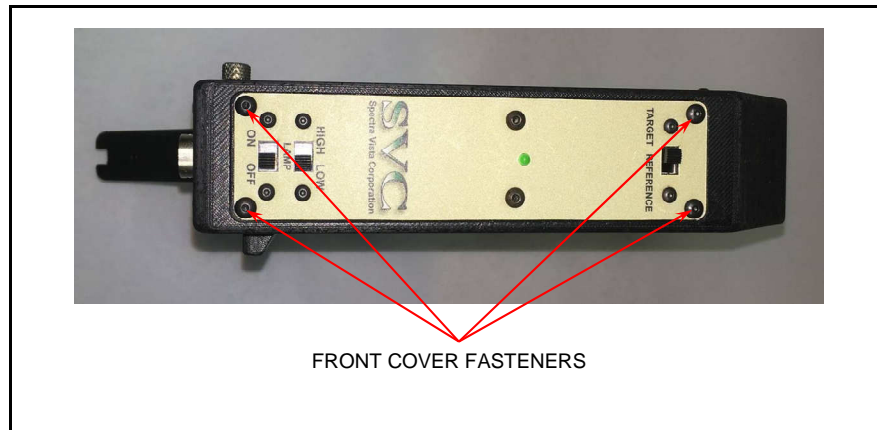

Figure 17 Front Cover Fasteners
2. Remove the four (4) fasteners holding the front cover at its corners (see Figure 17) using the 1/16" hex wrench. **ONLY REMOVE the 4 corner fasteners, DO NOT REMOVE any of the other fasteners.**